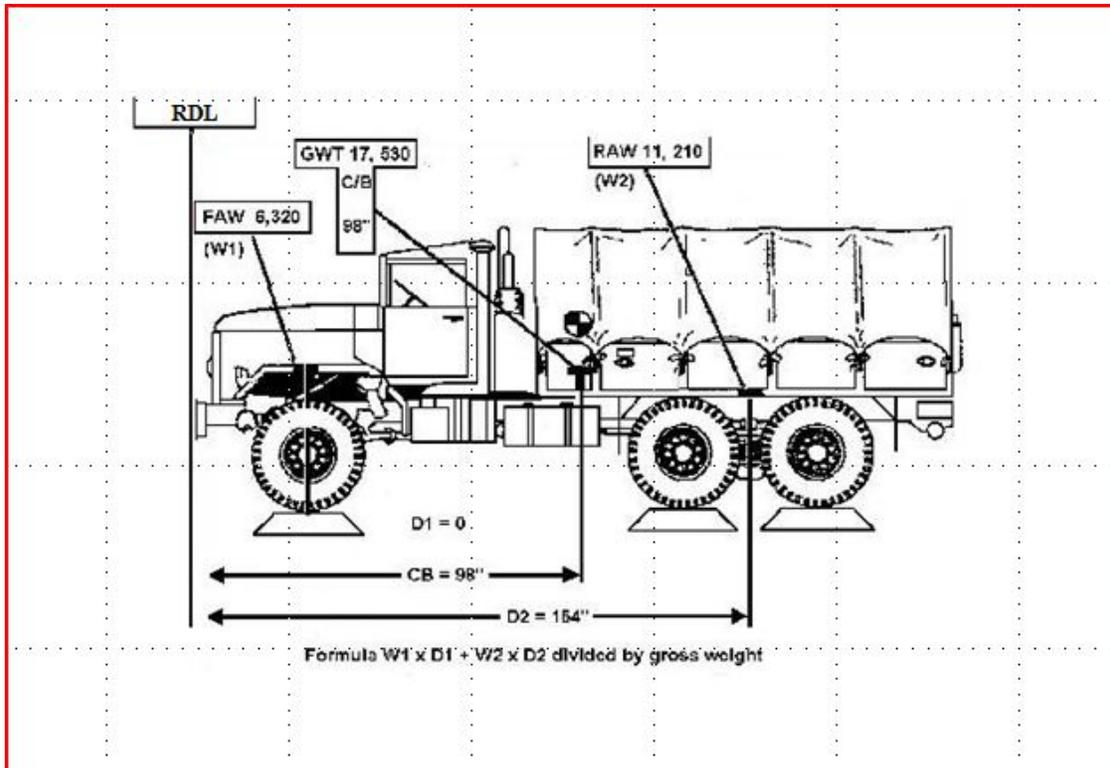

Figure 3-118
a. For tandem axles with less than 48-inch axle separation, compute center of balance (CB) from RDL to tandem midpoint (see Figure 3-118).